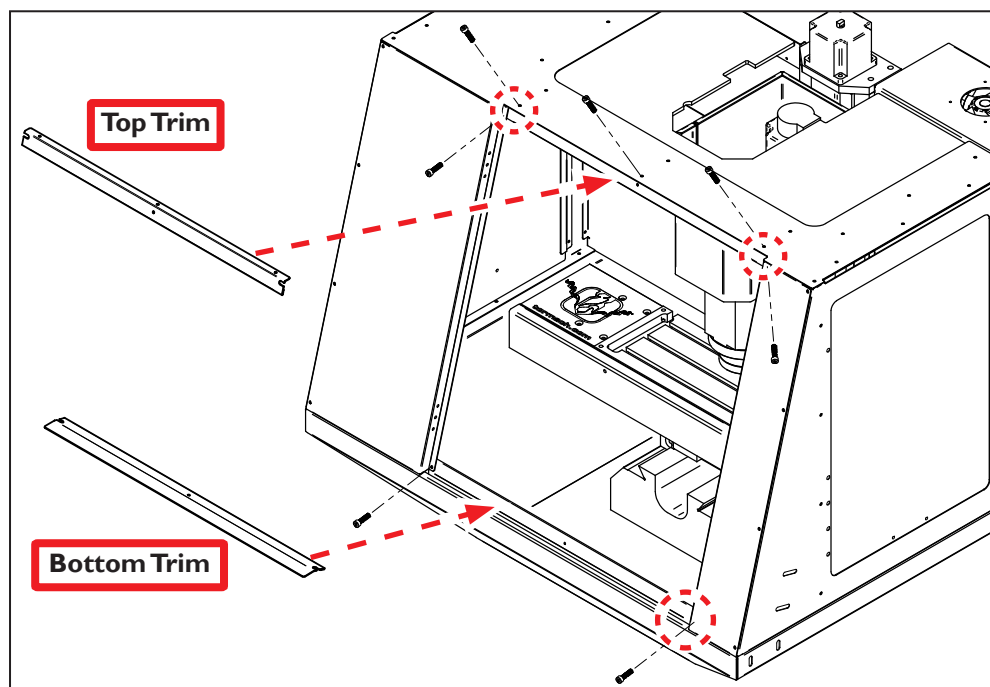
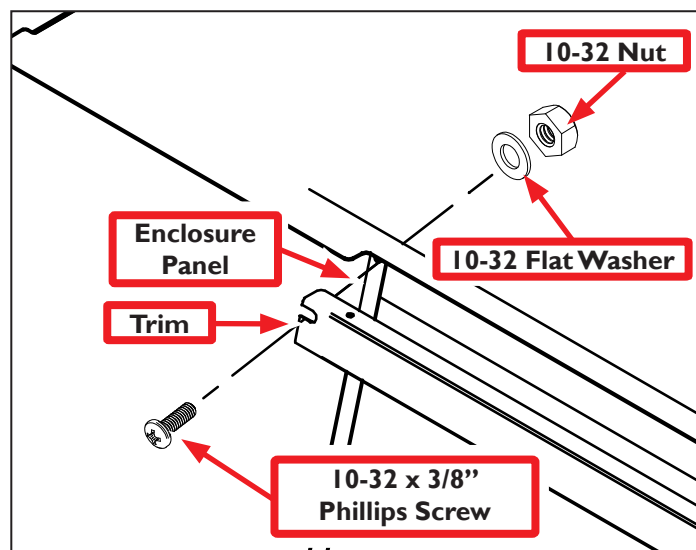

Figure 14
Figure 15
20. Using five 10-32 x 3/8" Phillips Screws, attach Top Trim to enclosure as shown in **Figure 14**; affix two front screws using one 10-32 Flat Washer and one 10-32 Nut for each (see **Figure 15**).
21. Using two 10-32 x 3/8" Phillips Screws, two 10-32 Flat Washers, and two 10-32 Nuts, attach Bottom Trim to enclosure front (see **Figure 14** and **Figure 15**).